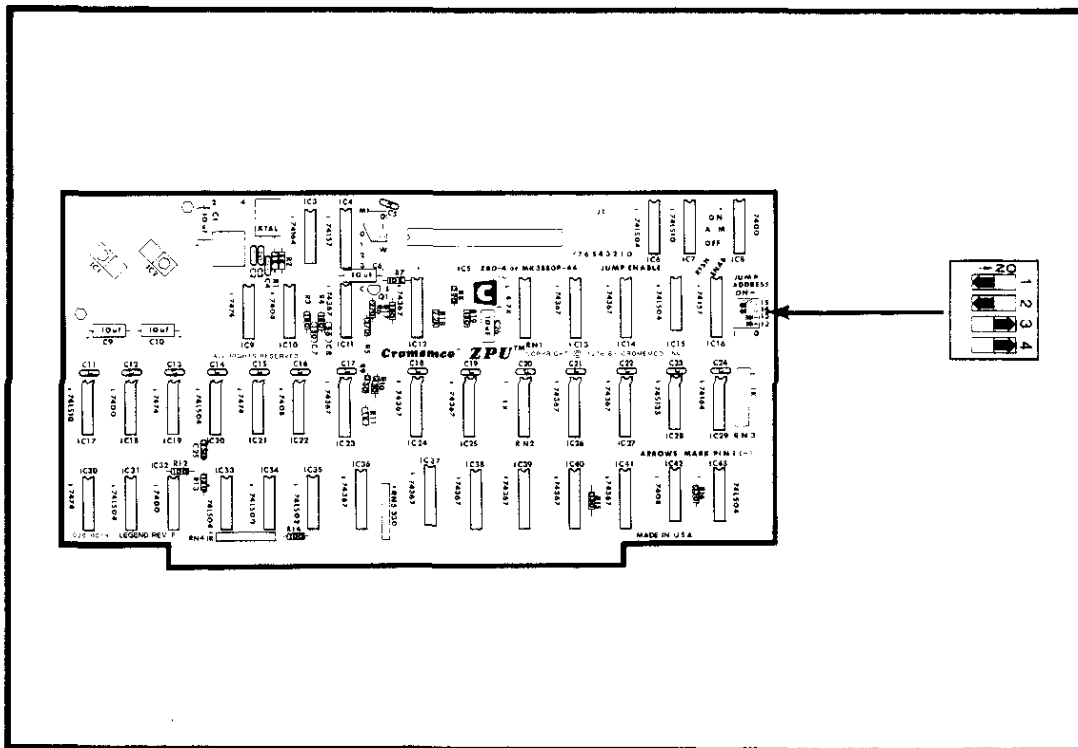

Figure F-1: SWITCH SETTINGS FOR THE ZPU BOARD
**ZPU Board** - This is a central processing unit with an 8-bit Z80A microprocessor. This board comes with models CS-3A and CS-3H. Figure F-1 shows the proper switch settings for this board.